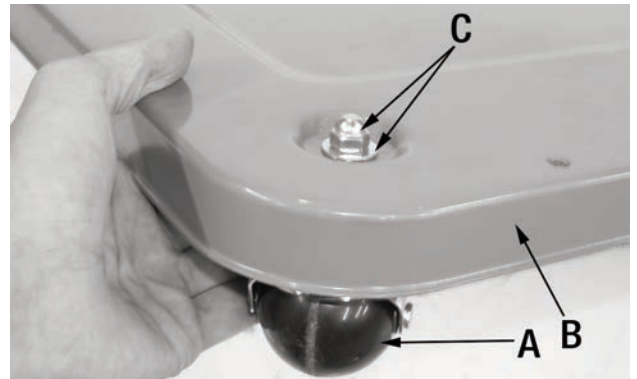

FIGURE 5
1. Install the four casters (A) Fig.5 to the under side of the base (B). Secure the four casters to the base using 4 washers and acorn hex. nuts (C). Tighten using the supplied wrench.